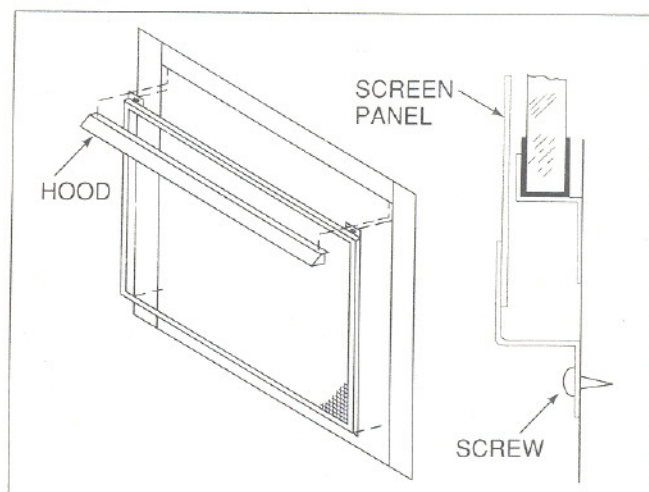

Figure 10
Position the hood in place as shown in Figure 10. Secure with the (3) screws supplied.
5. Ensure the screen panel is in position as shown in Figure 10.
2. Remove the screen panel (see Figure 10, page 8), revealing the glass mounting strip.
3. Hold the glass to ensure it doesn't fall and remove the (5) bolts in the glass support channel at the top of the glass.